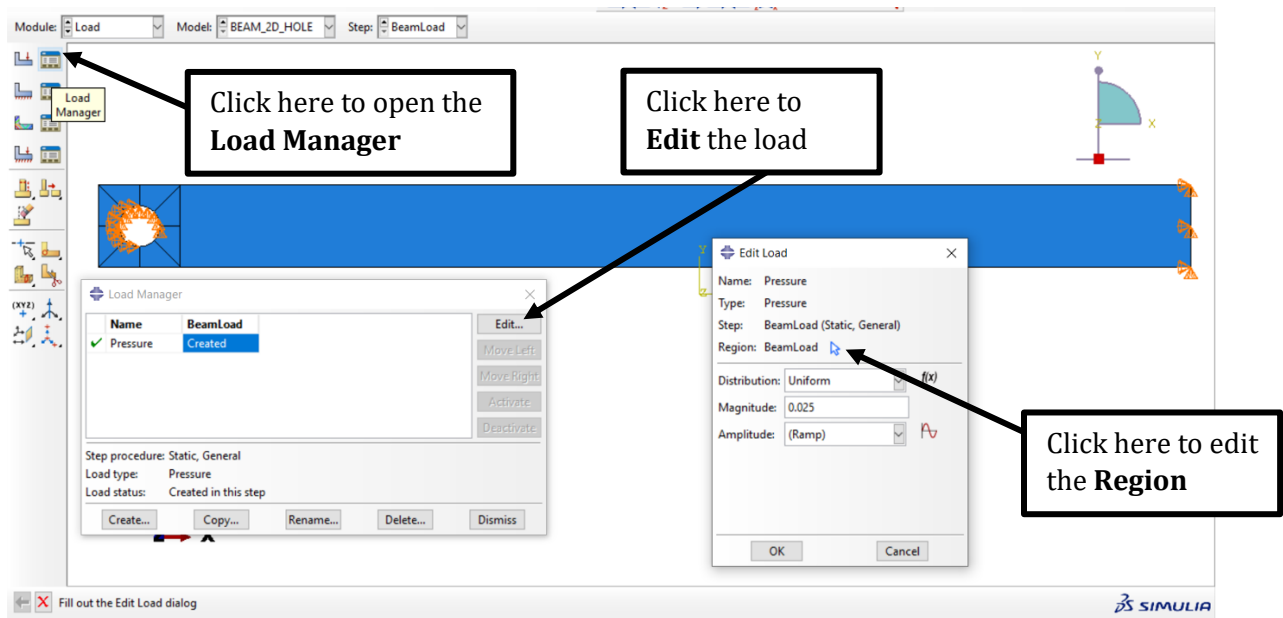

Figure 3-18 – Edit the load by updating the region according to the new geometry and partitions.
19. In the **Load module**, open the **Load Manager** as shown in Figure 3-18. Choose **Edit** in the Load Manager and click on the arrow next to Region. This will allow you to edit the loaded region according to the new geometry and partitions.